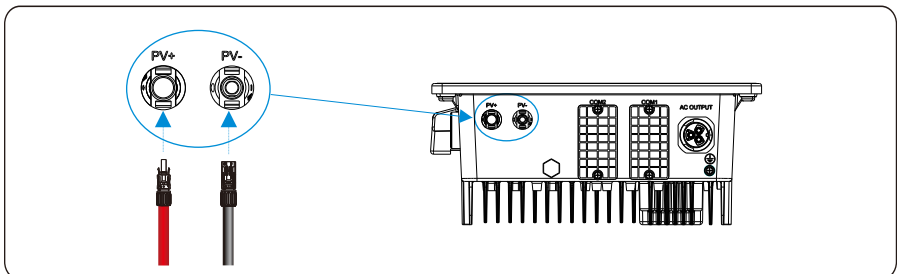

Figure 5.15 Connecting to the inverter
**Step 6** Insert the positive and negative connectors into their corresponding terminals of the inverter until a "click" sound is heard, as shown in Figure 5.15.